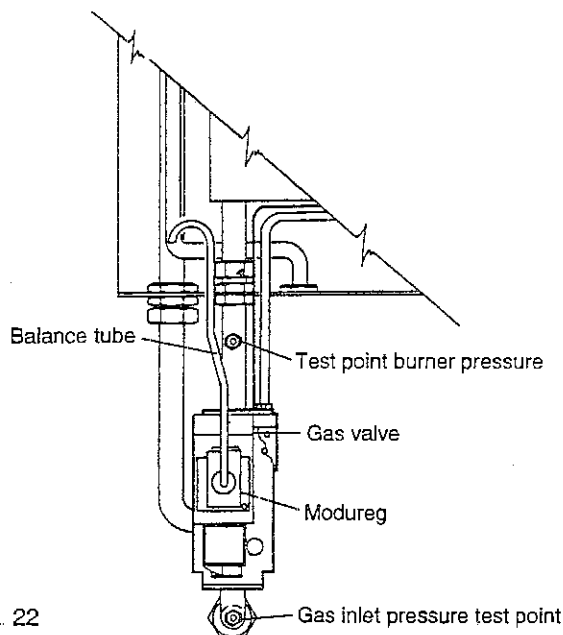

Fig. 22
- Loosen the screw in the burner pressure test point (fig. 22) and attach a gauge.
- e. Disconnect one of the wires from the «Modureg» (fig. 22), this will reduce the burner to minimum which should read 2.5 mbar $\pm$ 0.5 mbar. If the burner pressure is not as stated check the inlet working pressure (fig. 22) which should be minimum 20 mbar. If that is correct, consult Ferrol. No attempt should be made to alter D.H.W. burner pressure.